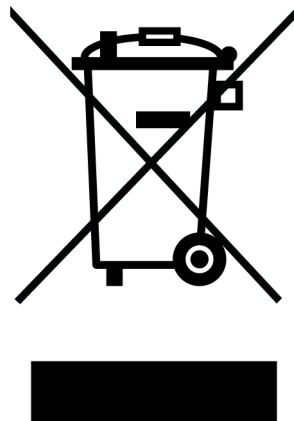

Figure 14 Crossed out 'wheelie bin' symbol
- marked correspondingly with the crossed out 'wheelie bin' logo (see Figure 14)
| Figure 14 | Crossed out 'wheelie bin' symbol | 60 |